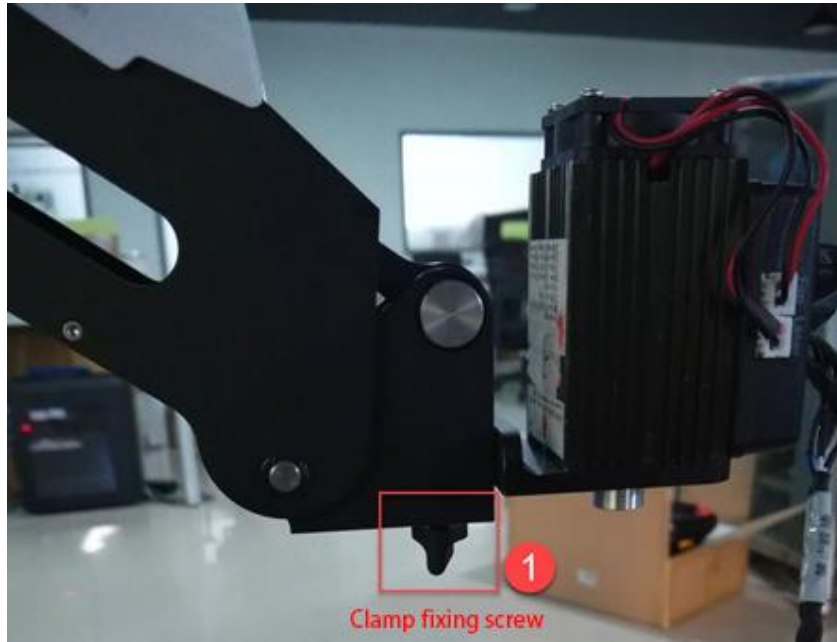

Figure 5.52 Fasten the laser with clamp fixing screw
**Step 1** Fasten the laser kit to the end of Dobot Magician with a clamp fixing screw, as shown in Figure 5.52.